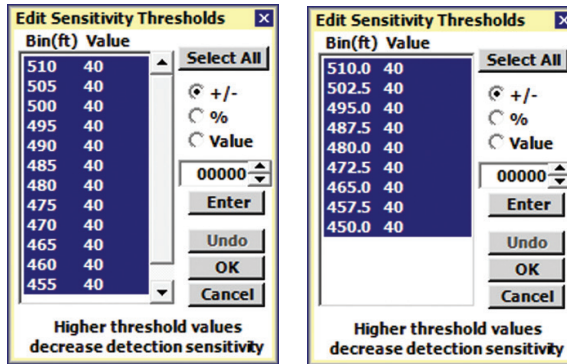

Figure 6.10 – Edit Sensitivity Thresholds Screen for Advance (left) and Advance Extended Range (right)
- 3 Click the **Edit** button and the Edit Sensitivity Thresholds screen will appear (see Figure 6.10). The following three editing modes are available for modifying sensitivity values: